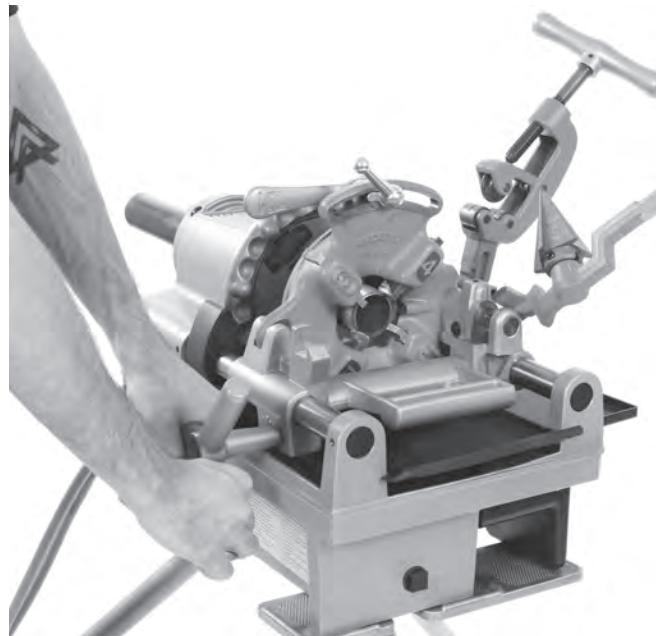

Figure 13 – Threading Pipe
3. Move the ON/OFF (I/O) switch to the ON (I) position.
4. With both hands, grasp the carriage handwheel. See *Figure 13*.
10. Move the ON/OFF (I/O) switch to the OFF (O) position.